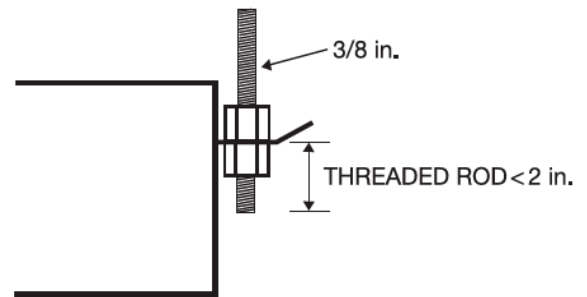

Fig. 6 — Threaded Rod
3. Secure the unit in position with locknuts and washers on the both sides of the unit bracket. Ensure the threaded rod does not protrude more than 2 in. below the mounting brackets as shown in Fig. 6.